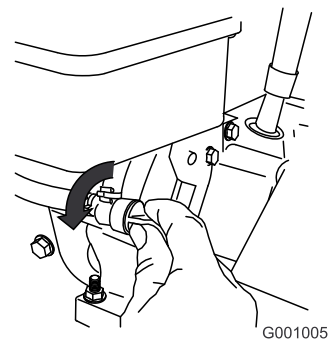

Figure 22
3. Rotate the fuel shutoff valve counterclockwise to open it (Figure 22).